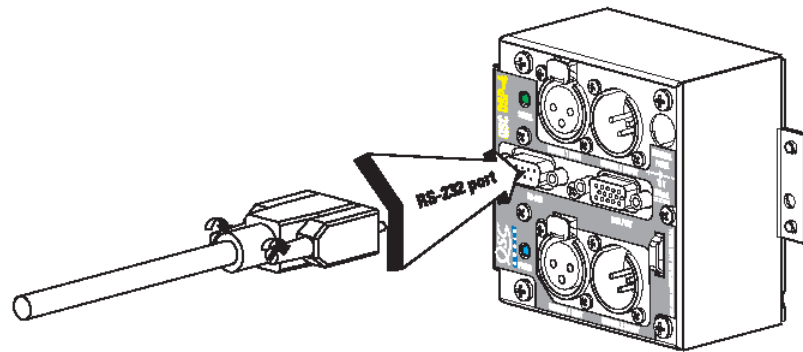

Figure 3. Connect the DSP-4 to the computer via the 9-pin serial port.
4. Plug a 9-pin serial cable into the DSP-4's RS-232 connector (Figure 3).